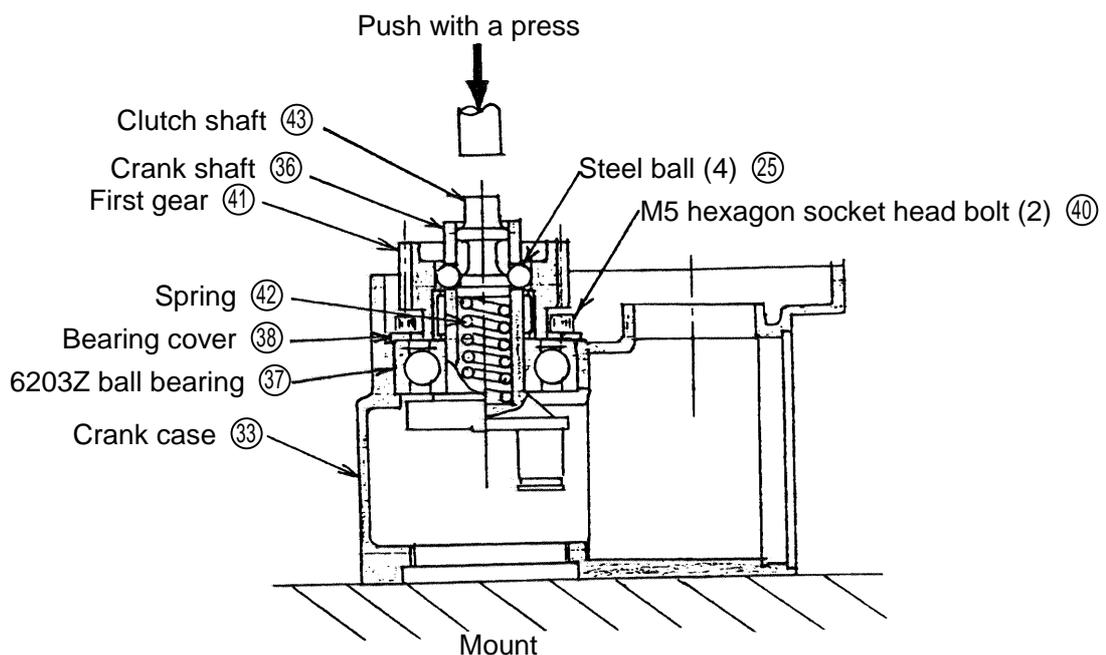

Fig. 8
The slip mechanism will come off by tapping the crank case (33) end surface with a plastic hammer from the gear cover (44) side. The first gear can be pulled out upward if it is put on a mount installed in the crank case (33) as shown in Fig. 8 and the clutch shaft (43) is pressed with a press to disengage the gear from the steel ball (4) (25).